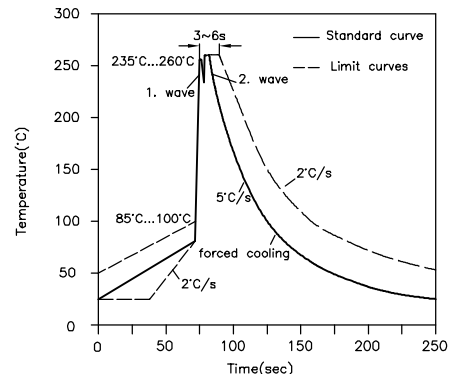

Fig. 5
- Through-hole LEDs: Wave Soldering – Pb-Free Solder (Fig. 4) | Pb-Sn Solder (Fig. 5)